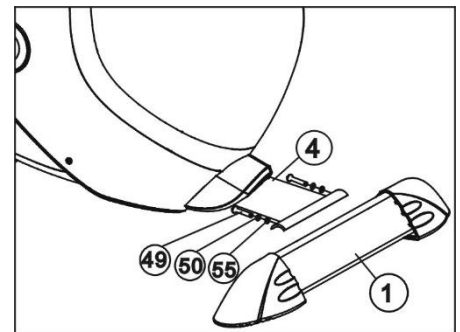

Figure2
Montati stabilizatorul posterior (1) la cadrul principal (4) cu 2 suruburi M8*20 bolt(49), $\Phi 8$ saibe elastice (50) si $\Phi 8$ saibe plate (55). (Refer. figure 2)